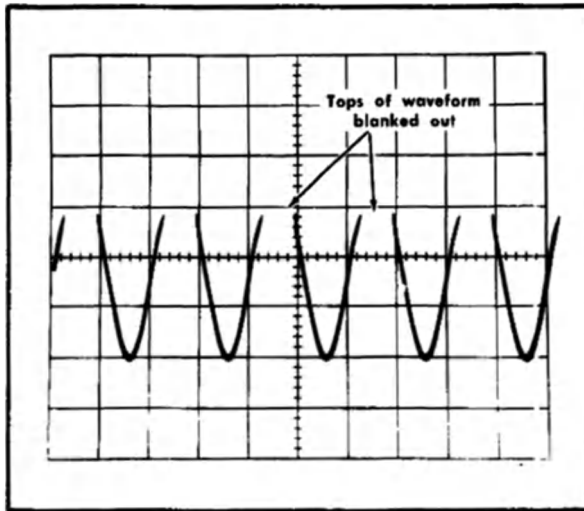

Fig. 5-20. Typical CRT display showing correct external blanking.
- CHECK—The positive peaks of the displayed signal should be blanked with a normal INTENSITY control setting (see Fig. 5-20).